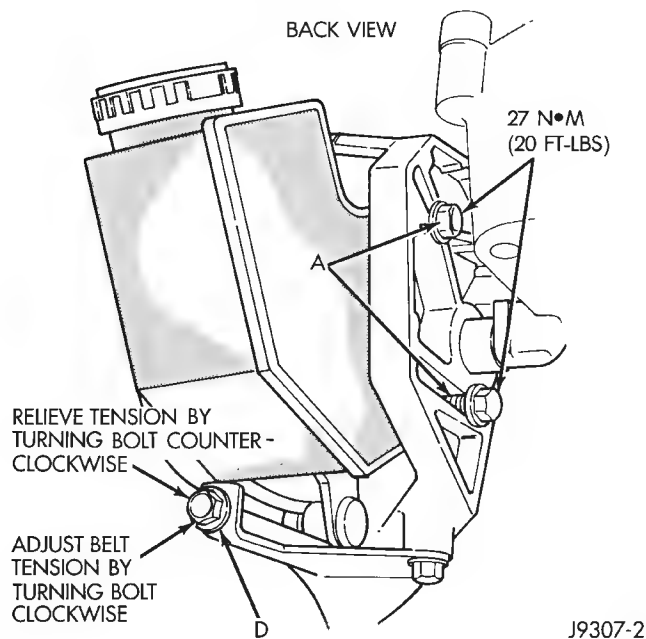

Fig. 8 P.S. Pump Rear Mounting Bolts—Typical
- (1) Loosen two rear power steering pump mounting bolts A (Fig. 8).
- (3) Loosen pump adjusting bolt D (Fig. 8).
- (4) If belt is to be adjusted, refer to Drive Belt Tension specifications at the end of this group for correct tension and proceed to step 7.
- (6) Install new belt. Refer to the end of this group for Drive Belt Tension specifications.
- (7) Tighten pump adjusting bolt D (Fig. 8) to attain proper belt tension.